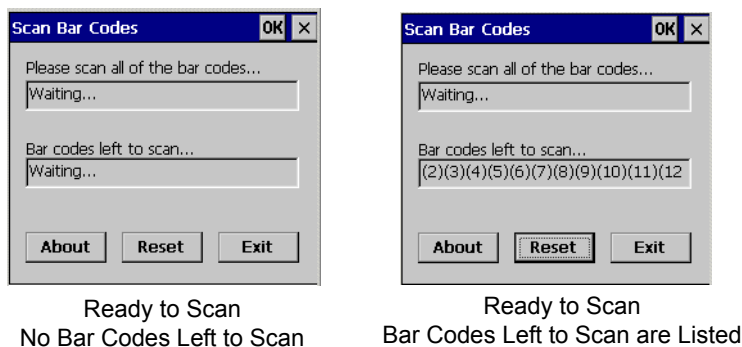

Figure 7-32 Rapid Deployment Window
- b. Multi-part linear bar codes (1-D bar codes) can require scanning several bar codes. Bar codes can be scanned in any order. The text box under **Bar codes left to scan...** shows the remaining bar codes to scan (see Figure 7-32).